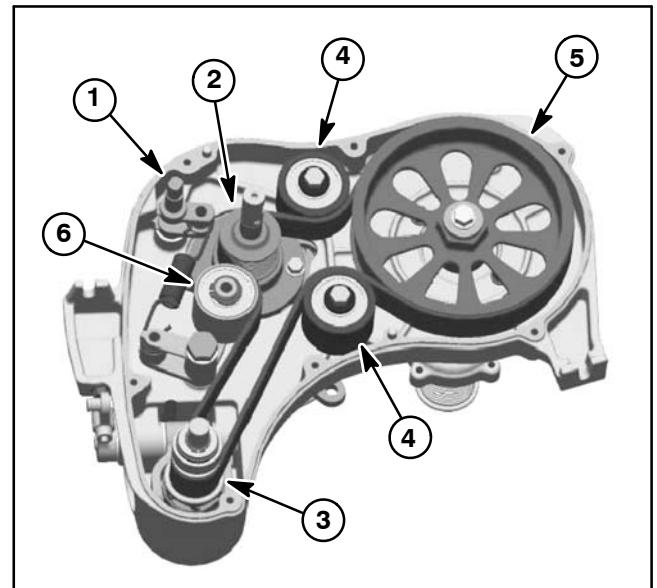
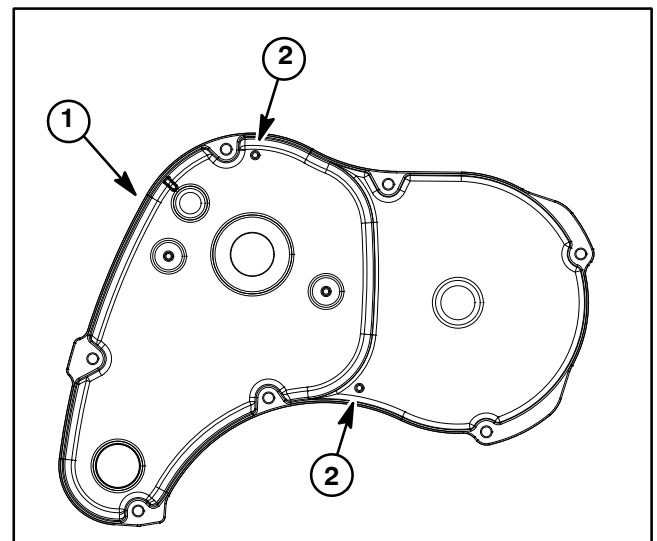

Figure 35
Figure 36
7. Remove seven (7) washer head screws that secure transmission cover to transmission. Carefully remove cover from transmission. Remove and discard gasket (item 3).
8. Make sure that wave washer (item 4) is pressed into reel drive shaft bore of transmission cover.
9. Note transmission belt routing for assembly purposes (Fig. 35).
1. Install new transmission belt onto pulleys in transmission. Make sure that belt is correctly routed around drive and idler pulleys (Fig. 35).
2. Make sure that wave washer (item 4) is pressed into bearing bores of transmission cover. Also, make sure that two (2) dowel pins are pressed into bores in the transmission housing.
3. Position new gasket to transmission assembly. Align gasket to two (2) dowel pins in transmission housing.
4. Install transmission cover. If necessary, use a rubber mallet at dowel locations (Fig. 36) to seat cover to transmission.
5. Install seven (7) washer head screws to secure cover to transmission. Tighten screws as follows:
7. Install key (item 6) to transmission shaft. Apply anti-seize lubricant to top of key.
8. Slide coupler (item 11) onto transmission shaft until it is flush with the end of the shaft. Secure coupler with two (2) set screws (item 12). Torque set screws from **60 to 65 in-lb (6.8 to 7.3 N-m)**.
9. Secure coupler guard (item 10) to transmission.